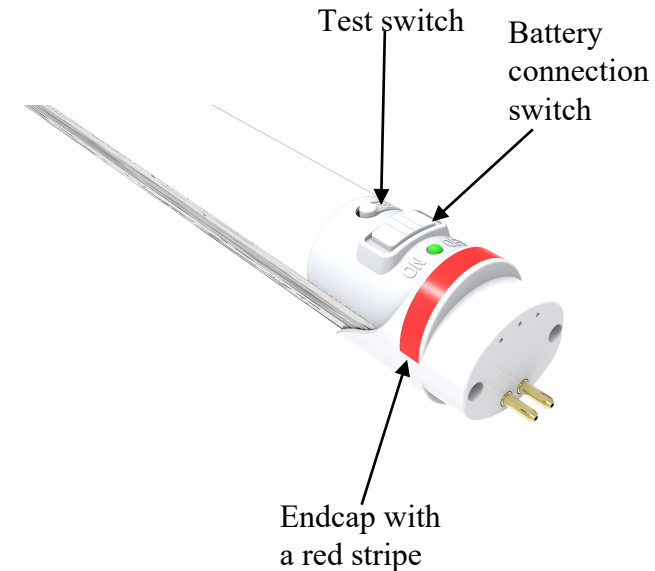

Fig. 2
8. **IMPORTANT:** Turn on a battery connection switch (see Fig. 2) near the endcap with the red stripe. The battery connection switch comes with a default “off” to prevent the built-in battery from being depleted and damaged. The lamp will be lighted in a dimmed light level powered by the built-in battery.
13. **Manual test and system reset:** Allow the lamp on the fixture for 24 hours with EMERGENCY MAINS on. Press a test switch (TS) once within 3 seconds (see Fig. 2), the lamp will test for 30 sec. Press TS twice within 3 sec, the lamp will test for 90 min. If a built-in battery voltage is not sufficient, the green LED will flicker on for 1 sec and then off for 0.3 sec, continuing for 15 sec, to indicate that the manual test is prohibited (see 14). During the manual tests, press TS once to terminate. The original schedules of the preprogrammed auto-test will not be changed. If not responding, press and hold TS for 5 seconds to reset.